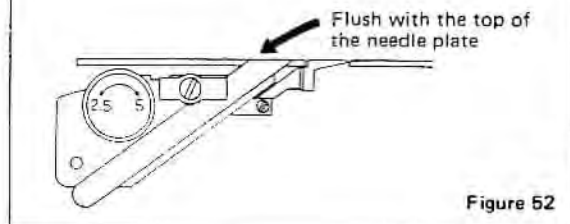

Figure 52
4. Hold the lower edge of the new knife and insert it into the holder from the bottom. Align top of knife to groove and flush to top of needle plate (Figure 52).